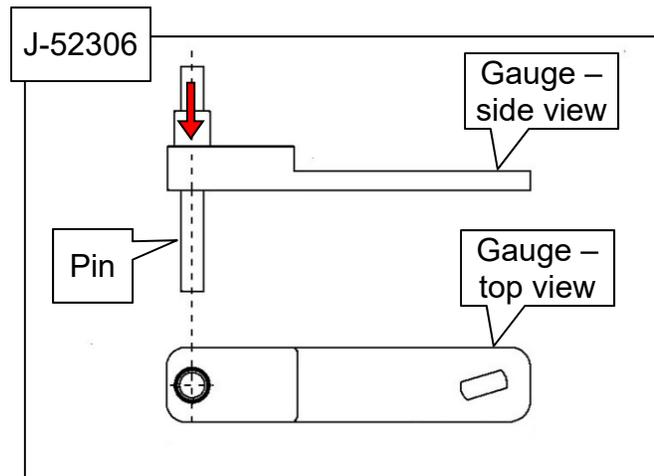

Figure 6
9. Using the manual lever, shift the CVT into Neutral (N), and then remove the manual lever.
10. Assemble tool J-52306 (see Figure 6).
HINT: The pin can be threaded into the gauge from either opening. Make sure to insert and thread it into the side shown in Figure 6.